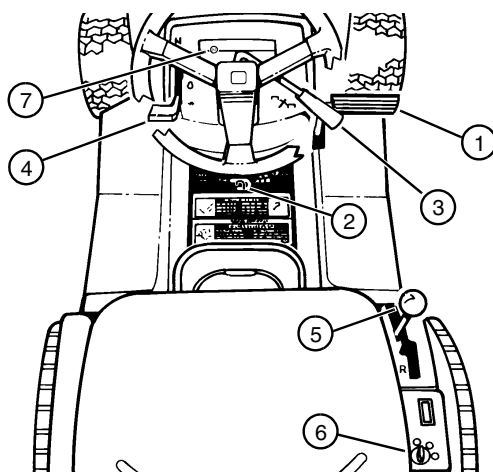

FIG. 13
- Push and hold foot pedal (1) all the way down. (See FIG. 13)
- Move park brake lever (2) forward, then to the left to lock position.
- Move park brake lever (2) to the right, then to the rear.